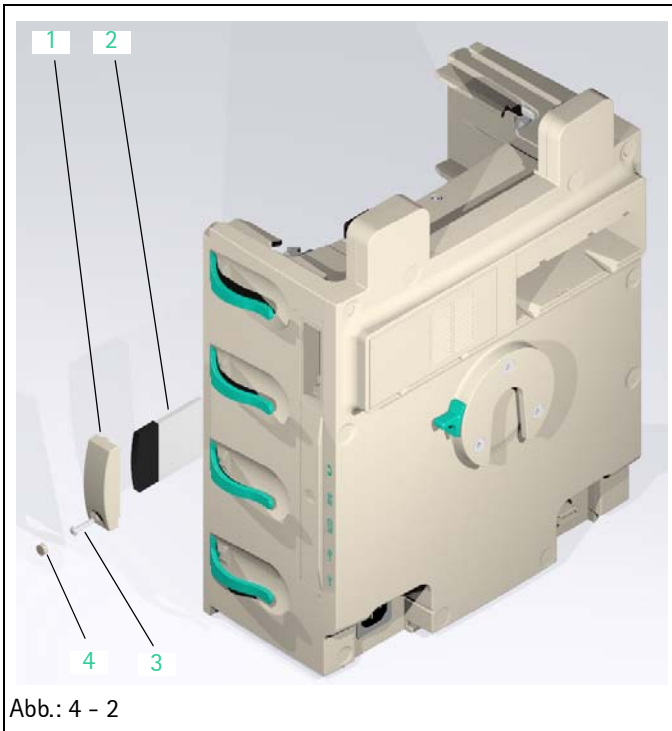

Abb.: 4 - 2
1. Rotate the lock (Abb.: 4 - 1 / Item 3) on the battery compartment cover (Abb.: 4 - 1 / Item 2) and remove the battery compartment cover.
2. Push the lock (Abb.: 4 - 1 / Item 4) on the battery module downward and remove the battery module (Abb.: 4 - 1 / Item 1) out of the battery compartment.
Legende zu Abb. 4 - 2: